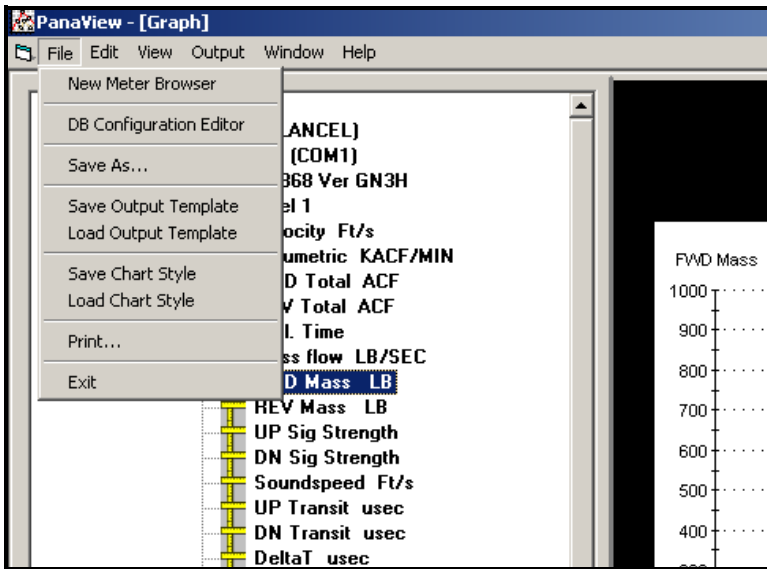

Figure 61: The File Menu for Graphs
After setting up a chart (graph) as described in the previous section, you will find that several new menu options are now available in the “File” menu (see Figure 61).
- Open the “*Output*” menu and click on the “*Graphing - From Template*” option (see Figure 56 on page 74) or open the “*File*” menu and click on the “*Load Output Template*” option (see Figure 61 on page 83). If any output templates (\*.opt) have been saved, select the desired file at the dialog box shown in Figure 65. Then, click on the [Open] option button to load the properties and parameters to be graphed from the output template selected.
- Open the “File” menu and click on the “Load Chart Style” option (see Figure 61 on page 83). If any chart templates (\*.oc2) have been saved, select the desired file at the dialog box shown in Figure 66. Then, click on the [Open] option button to load the graph properties from the output template selected.